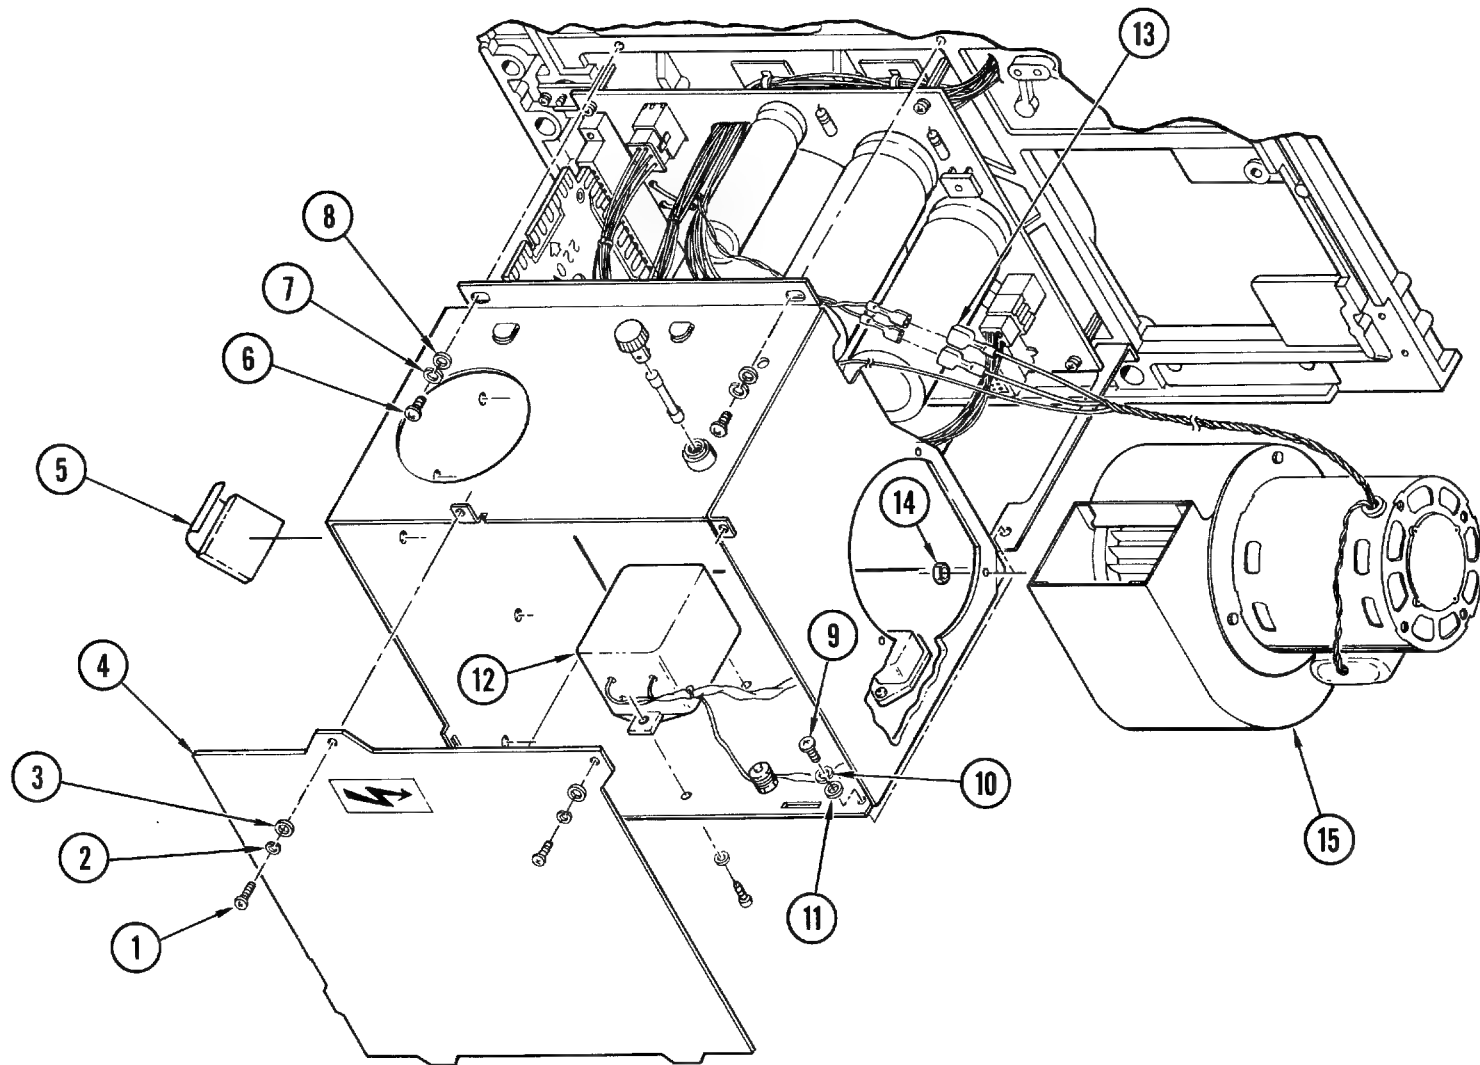

Figure 4-24. Power Supply Assembly
**4-38. Removal and Replacement (Figure 4-24).** Place the drive in service access position in accordance with instructions in paragraph 4-3 and proceed as follows:
- c. Remove screws (1, Figure 4-24), lockwashers (2), and flatwashers (3) securing power supply cover (4).
- d. Remove wiring harness from clip cord (5) securing wiring harness to outside of power supply chassis, and disconnect wiring harness connector from power supply PWB.
- e. Remove screws (6), lockwashers (7), and flatwashers (8) securing power supply chassis to top plate.
- f. Remove screws (9), lockwashers (10), and flatwashers (11) securing chassis to rear bracket.
- g. Disconnect air pump wires (13) and terminals from EMI filter (12) noting position from which removed.
- h. If air pump assembly (15) is to be replaced, remove nuts (14) securing air pump to chassis.